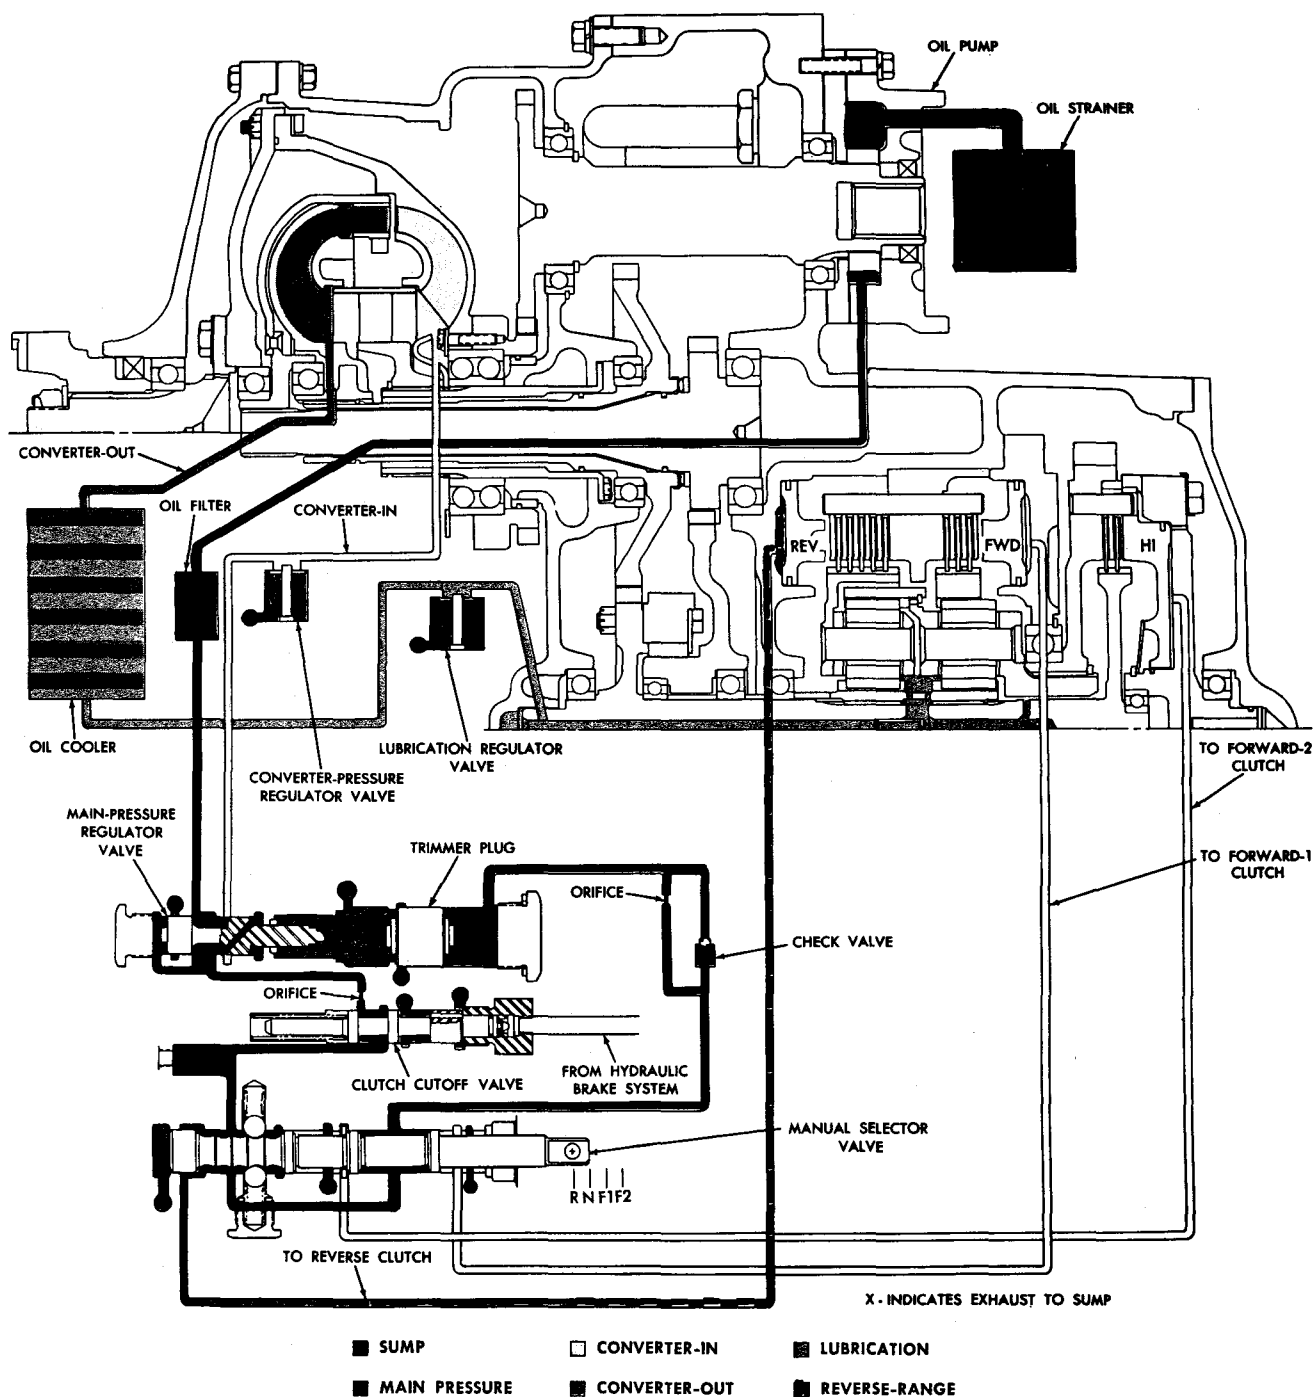

Fig. II-5. Hydraulic action in reverse range, clutch cut off control released—schematic diagram
(1) Fig. II-5 illustrates the hydraulic system's action in reverse range when the clutch cutoff valve is included in the system.